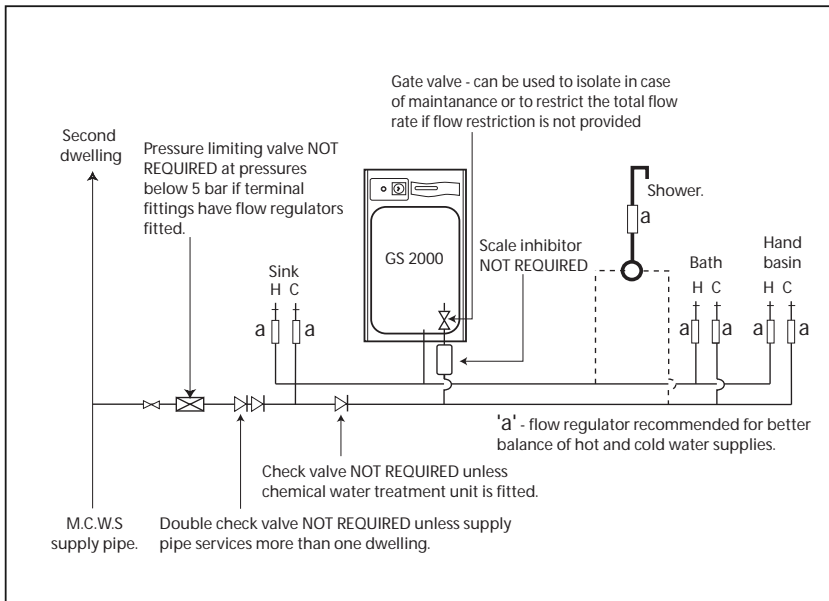

Figure 9 Hot & Cold Water Distribution Network
7. Typical cold and hot water distribution network is shown in Figures 9 and 10.